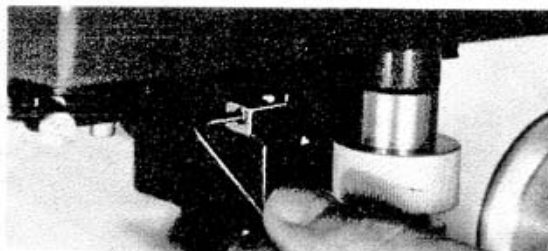

Figure 4. Condenser Stop Screw
- Using  $5/64$ " Allen wrench, loosen condenser stop screw (Figure 4). Condenser stop will pop up.